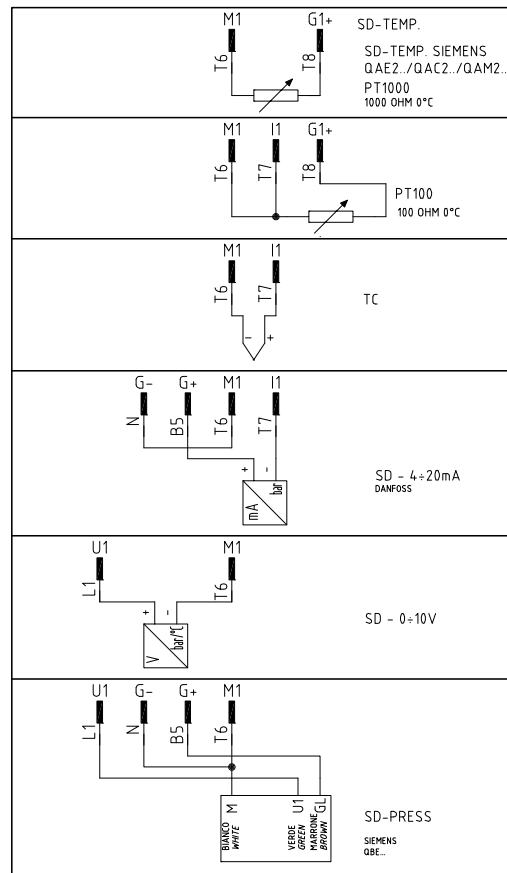

Fig. 26: Probes connection
- 1 Connect the signal conductors from the boiler to the burner, as for the next elements (Fig. 26 - Fig. 28):
- 2 Connect the signal conductors from the burner to the boiler, as for the next elements (Fig. 26 - Fig. 28)